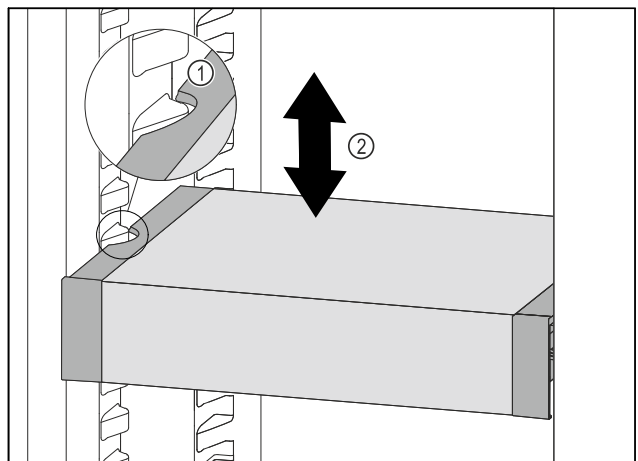

Fig. 120
- ▶ Pull VarioSafe forwards until the recesses in the side of the VarioSafe are at the level of the support rib in the refrigerator compartment. Fig. 120 (1)
- ▶ Move VarioSafe up or down in the refrigerator compartment until the desired height is reached. Fig. 120 (2)